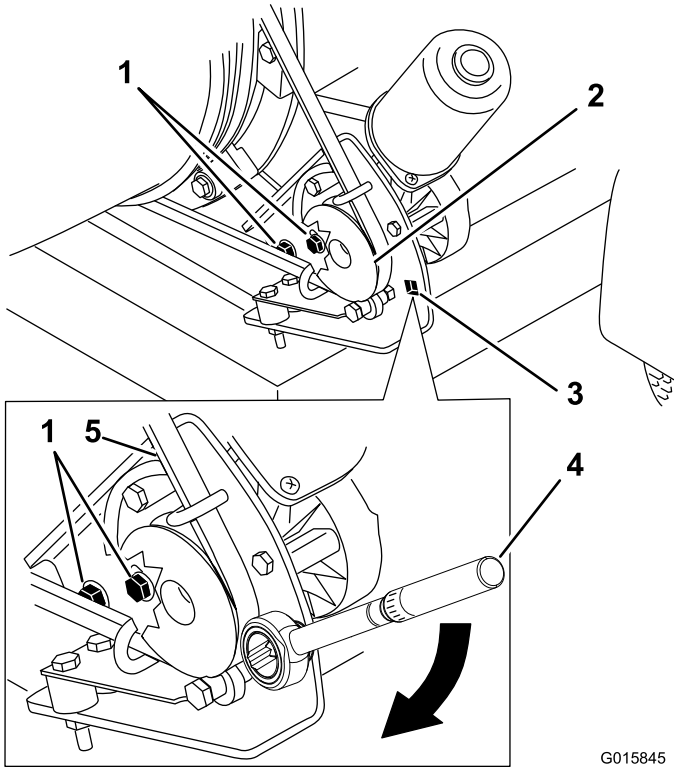

Figure 28
1. Loosen the bolts securing the pulley mounting bracket to the blower frame (Figure 28).
2. Position a torque wrench into the pulley mounting bracket (Figure 28).
3. Pivot the pulley mounting bracket away from the nozzle until the torque wrench reads 22.6 to 26.0 N-m (200 to 230 in-lb) (Figure 28).